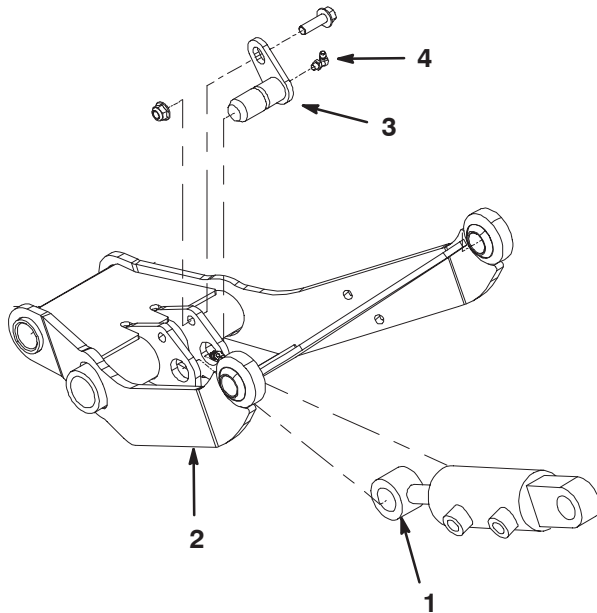
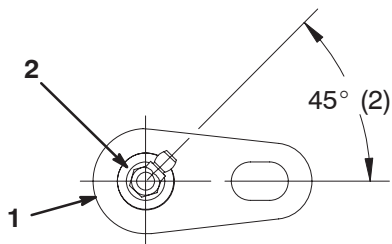

Figure 4
Figure 5
5. Mount the rod end of the hydraulic cylinder to the lift arm with a pivot pin (Fig. 4).
6. Secure the pivot pin to the lift arm with a screw (3/8 x 1-1/4 inch) and a flange nut (3/8), positioning as shown in figure 4.
7. Thread a 90 degree grease fitting into the end of the pivot pin (Fig. 4). Position the grease fitting as shown in figure 5.